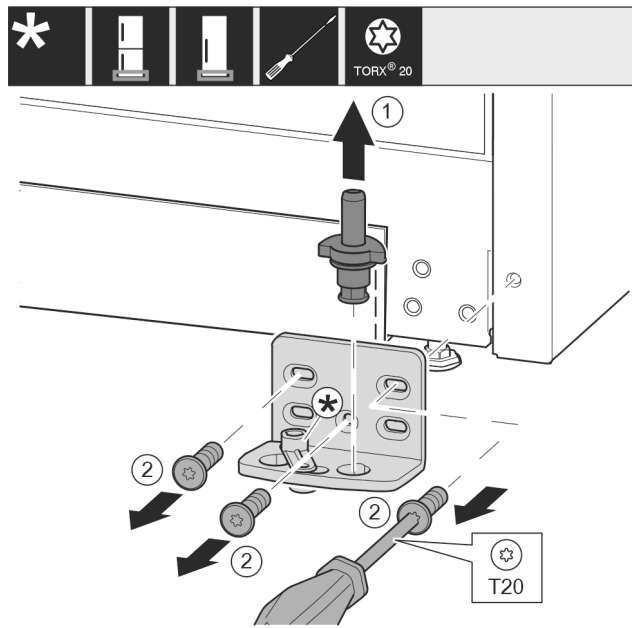

Fig. 42 *
- ▶ Pull the bearing bolt Fig. 42 (1) out upwards completely.*
- ▶ Use screwdriver to unscrew the screws Fig. 42 (2) and remove the swap bearing block.*